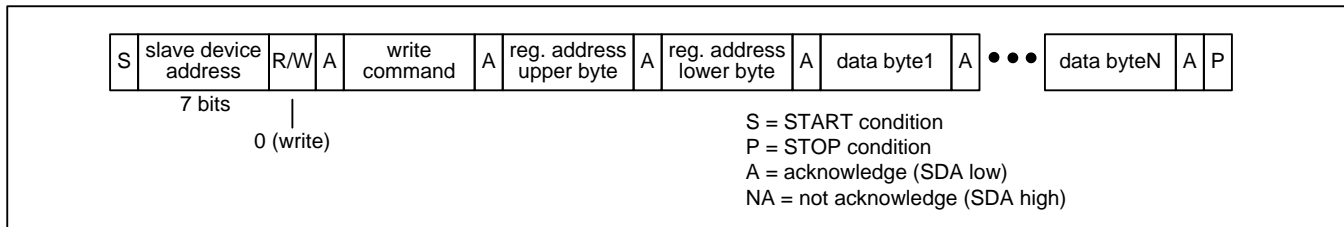

Figure 10 - I²C Register Write Transaction Functional Timing
Register Write Transactions. The device registers are accessible when the EESEL bit is 0. The bus master does an I²C write to the device. The first three bytes of this transaction are the SPI Write command (see Table 3), the upper byte of the register address, and the lower byte of the register address. Subsequent bytes are data bytes to be written. After each data byte is received, the device writes the byte to the write address and then increments the write address. The bus master terminates the write with a STOP condition (P). See Figure 10.